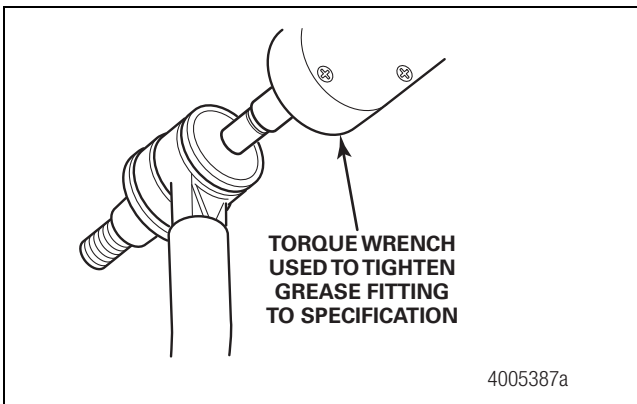

Figure 6.2
2. Tighten all grease fittings to 25 lb-in (2.8 N•m). Figure 6.2.